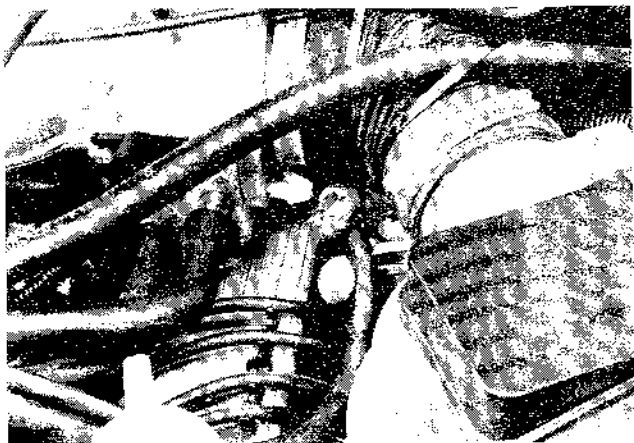

Fig.14
- 5 Disconnect the charcoal canister vacuum pipe (if fitted) and seal the port at the plenum chamber (as Fig.14).